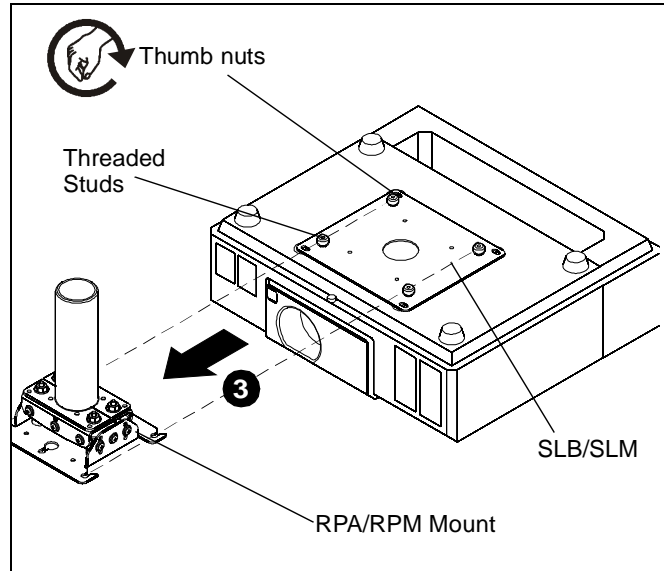

Figure 6
1. Ensure the SLB/SLM is installed on the projector. (See Figure 6) If the SLB/SLM needs to be installed, install it according to the installation instructions provided with the SLB/SLM.
3. For a pole-mounted RPA/RPM, slide the slotted openings on the RPA/RPM into the threaded studs on the SLB/SLM. (See Figure 6) Fasten the RPA/RPM to the SLB/SLM with thumb nuts and hand tighten.